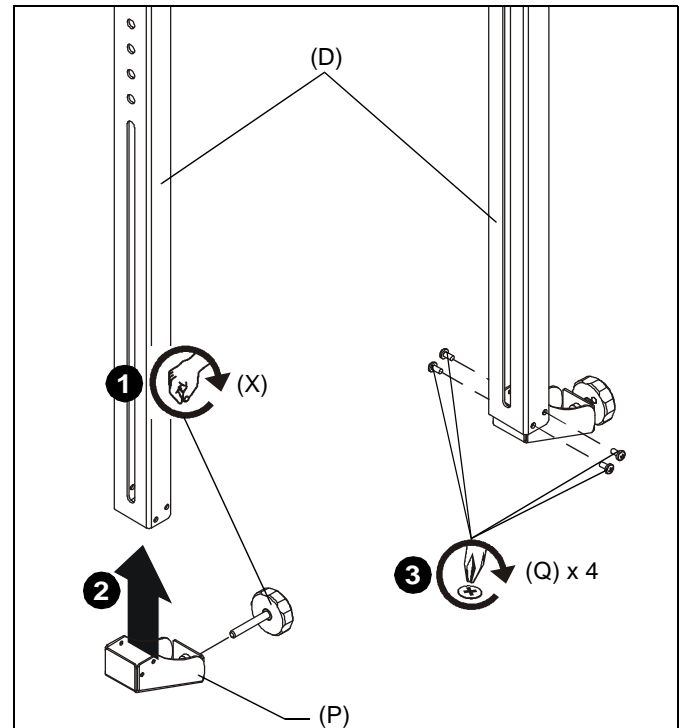

Figure 2
1. Install M6x40mm knob (X) into hole on alternate foot (P). (See Figure 2)
2. Place alternate foot (P) over bottom of upright assembly (D). (See Figure 2)
3. Fasten alternate foot (P) to upright assembly (D) using four M4 x 08mm Phillips head screws (Q). (See Figure 2)
4. Repeat Steps 1 and 2 on the other upright assembly (D).